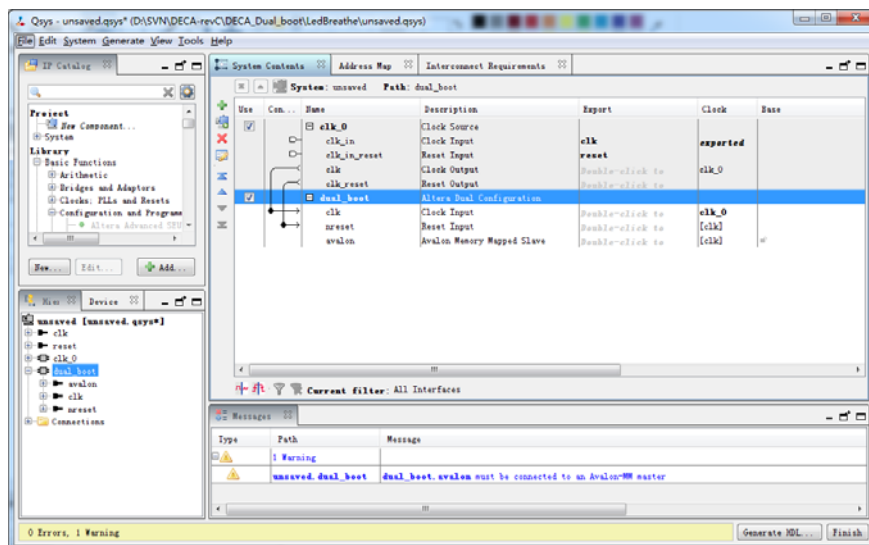

Figure 8-3 Rename and Connect Dual Boot IP
- Open Quartus project and choose **Tools > Qsys** to open **Qsys** system wizard. Create a new system and add the dual configuration IP. Connect the logic as **Figure 8-3**.